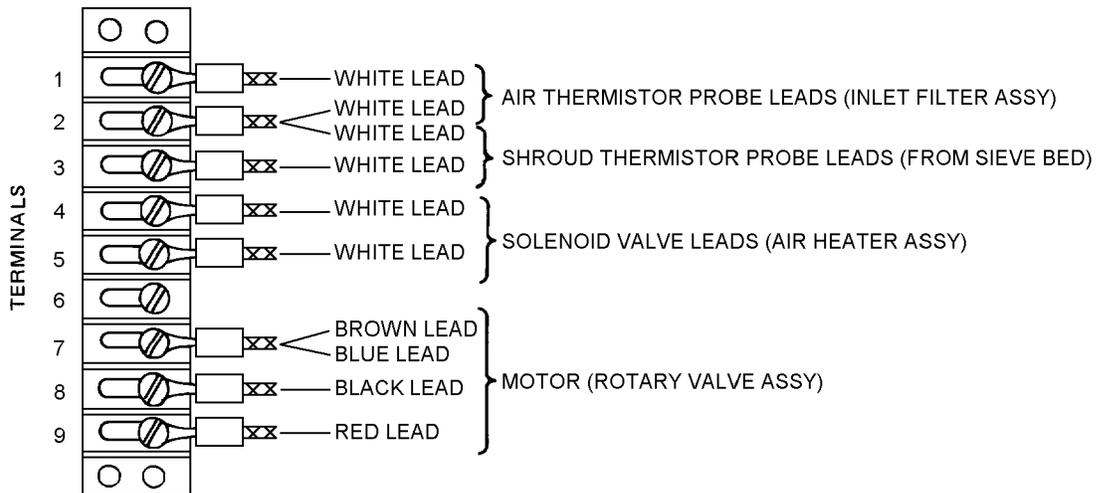

Figure 4-8. Terminal Strip Wiring
6. Carefully remove RTV adhesive covering screws securing leads of three thermistor wires at terminals 1 and 2 (figure 4-8) and remove screws. Place blade of screwdriver flat under terminal lead and carefully press down and back until lead is free of terminal board. Repeat for all leads to be removed. Carefully remove remaining RTV adhesive.
2. Attach test lead wire (P/N ALB24RED) to terminal (1) and (2) of terminal strip (figure 4-8) and observe HEATER gages (M2) and (M3) of test set.
3. If jump across terminals (1) and (2) does not cause (M2) and (M3) to go to zero, replace electronics box.
4. If jump across terminals (1) and (2) causes (M2) and (M3) to go to zero, perform the following:
<p>NOTE</p> <p>CONC ON/OFF switch (S1) must be in ON position in order to take readings. Place S1 in OFF position after readings are obtained.</p> <ol style="list-style-type: none"> 1. Turn on 28 Vdc POWER supply and set CONC circuit breaker (CB1) test set POWER to ON position. 2. Attach test lead wire (P/N ALB24RED) to terminals (1) and (2) of terminal strip (figure 4-8) and observe HEATER gages (DS2) and (DS3) of test set. 3. If jump across terminals (1) and (2) does not cause (DS4) and (DS5) to go off, replace electronics box. 4. If jump across terminals (1) and (2) causes (DS4) and (DS5) to go off, perform the following: <ol style="list-style-type: none"> a. Check thermistor (RT1) wires for broken wire, defective terminal connection or other open circuit using Fluke 77/AN multimeter. b. Normal resistance of the thermistor (RT1) is 6000 to 16,000 ohms depending on temperature. If reading on multimeter is between 6000 to 16,000 ohms, locate and repair defective wires. c. Reassemble concentrator and continue Bench Test.